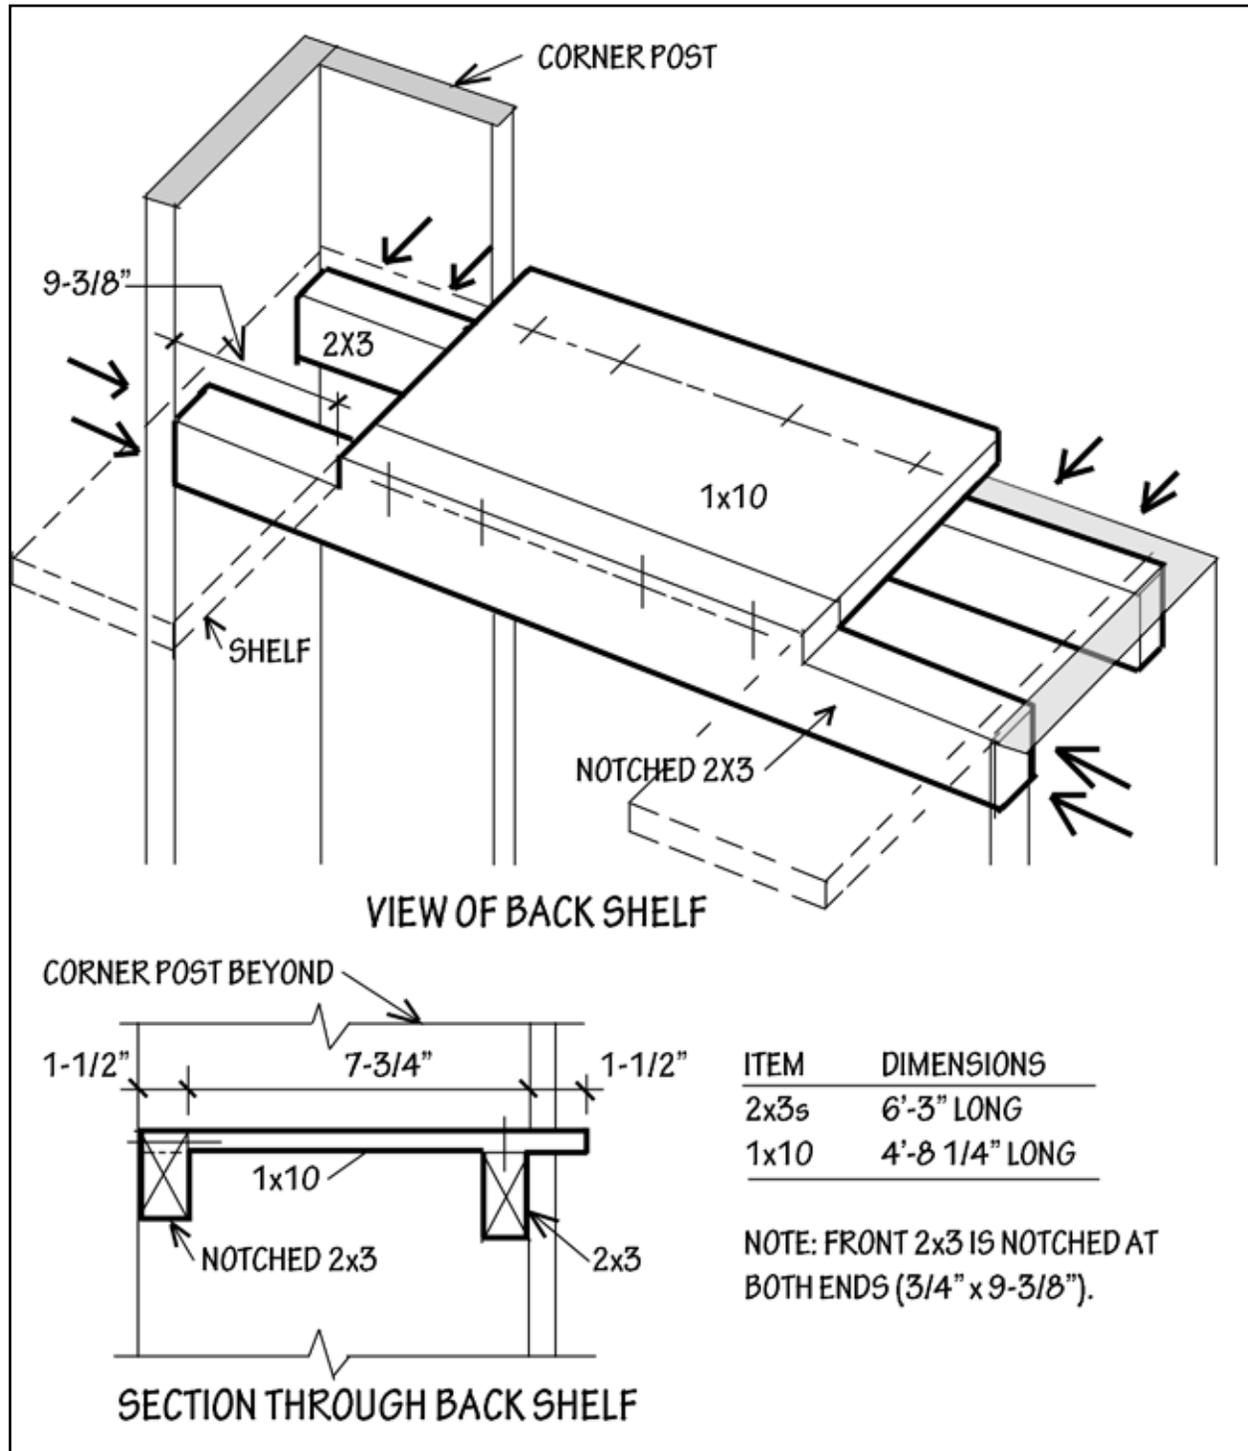

Figure 5. Fabrication and installation of back shelf
7. BACK SHELF. The construction and installation of the back shelf is shown in Figure 5. This shelf consists of a 1x10 board and two 2x3s screwed and glued to the 1x10 before it is attached to the corner posts of the bed. The front 2x3 is notched as shown in Figure 5 so that the two shelves on either side can be flush with the top surface of the back shelf. Once the 2x3s are glued and screwd into the 1x10, the shelf unit is placed so that the 2x3s that extend beyond the 1x10